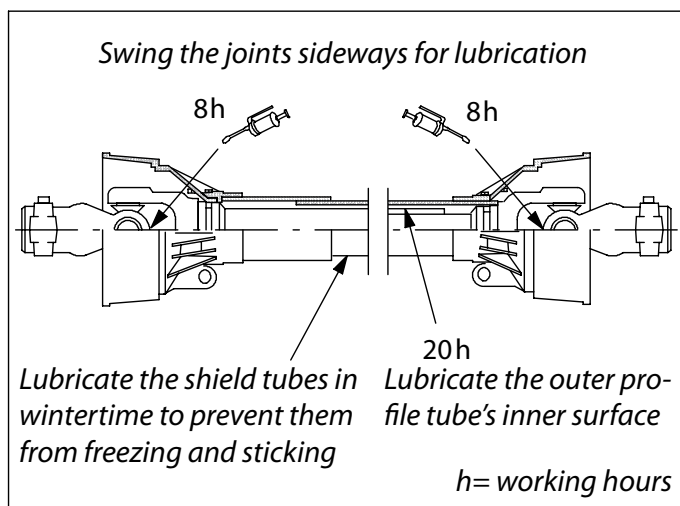

Fig. 9. Lubrication points and intervals for the PTO shaft
- Lubricate the PTO shaft prior to operation and regularly, as shown in Fig. 9.